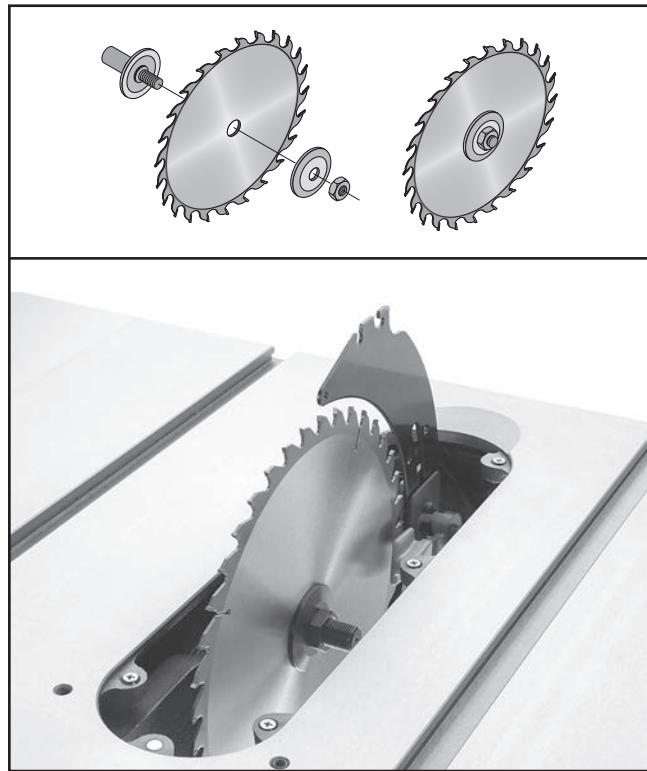

Figure 47. Correct order of installation with teeth facing correct direction.
4. Install new blade, flange, and arbor nut on arbor (as shown in **Figure 47**) with teeth facing front of saw.